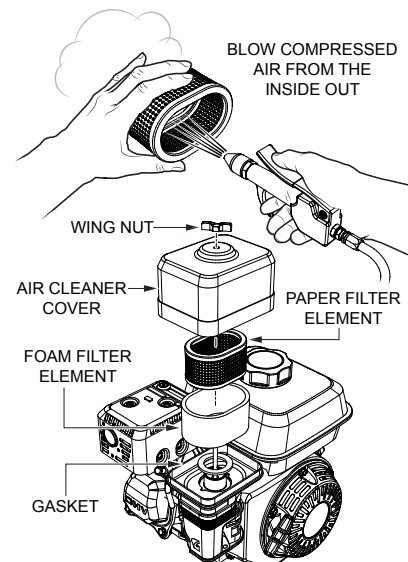

Figure 30. Engine Air Cleaner
1. Remove the air cleaner cover and foam filter element as shown in Figure 30.
2. Tap the paper filter element (Figure 30) several times on a hard surface to remove dirt, or blow compressed air not exceeding 30 psi (207 kPa, 2.1 kgf/cm2) through the filter element from the air cleaner case side. **NEVER** brush off dirt. Brushing will force dirt into the fibers. Replace the paper filter element if it is excessively dirty.